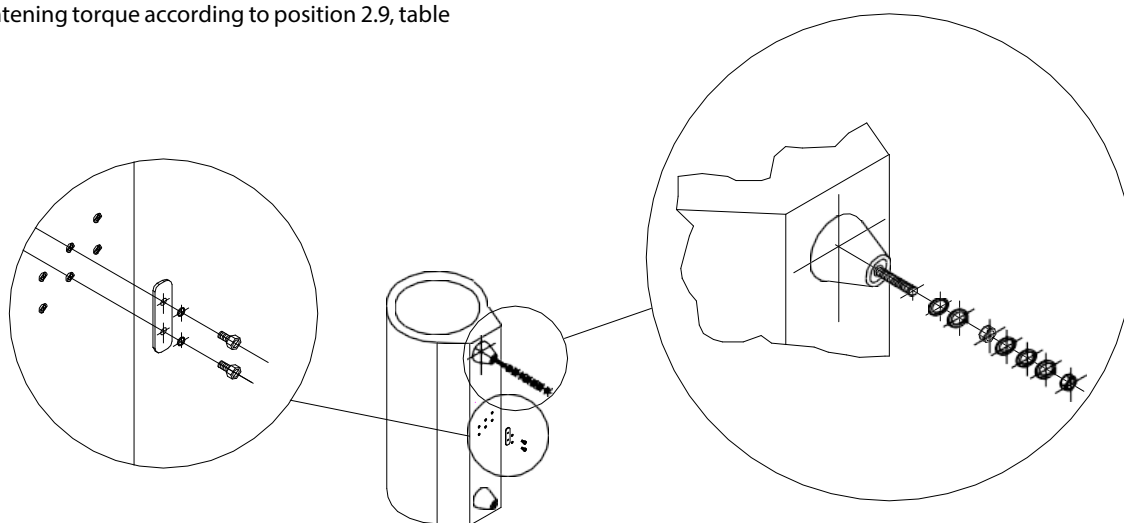

fig 10
- 2 Set the tapping plates in the most suitable position according to the feeding voltage required (as per figure 10) and tighten carefully with tightening torque according to position 2.9, table 5 on page 11.